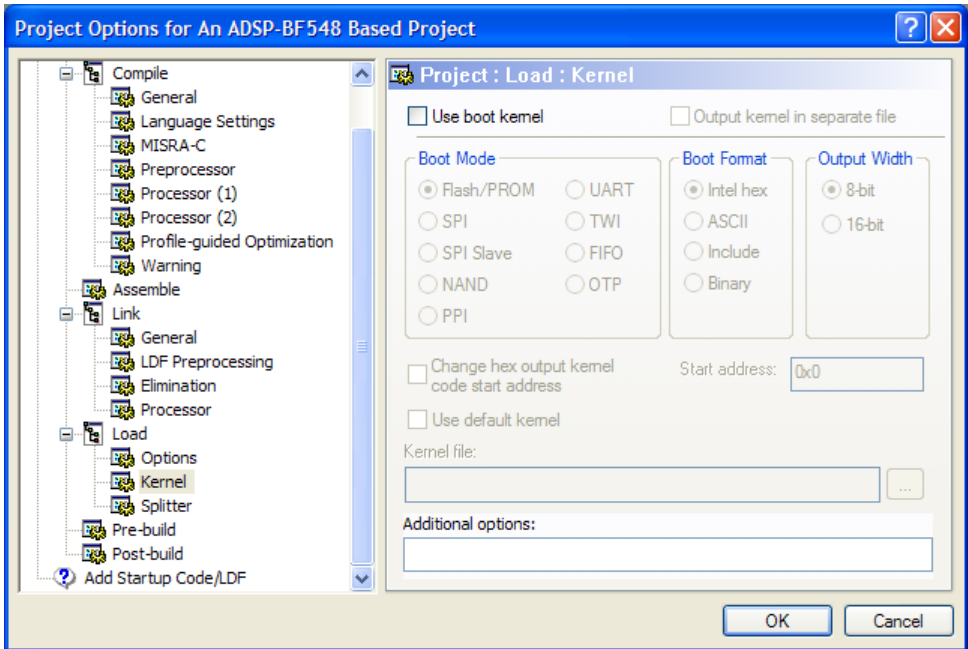

Figure 2-2. Project: Load: Kernel Page for ADSP-BF548 Processors
Unless you develop a second-stage loader and use it, most of the options on the **Kernel** page are grayed out. Figure 2-2 shows a sample **Kernel** page with options set for an ADSP-BF548 Blackfin processor.
2. Select **Kernel** (under **Load**) to set up the second-stage loader options (Figure 2-2).